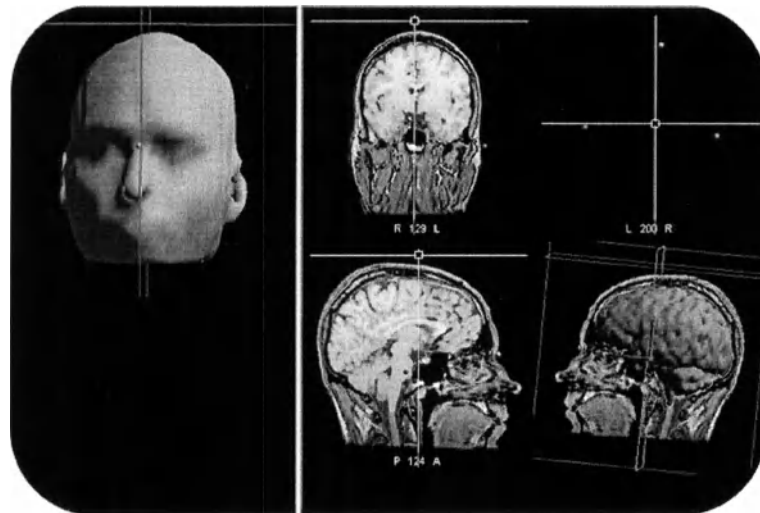

FIGURE 11: *MRI VIEW* AFTER SUCCESSFULL SCALP AND BRAIN SEGMENTATION
- Start the segmentation by clicking the [Create Segments] button. The segmented scalp and brain compartments will be displayed in the *MRI View*, the scalp on the left side, the brain on the right as indicated in Figure 11 .
- Start the segmentation by clicking the [Create Segments] button. The segmented scalp and brain compartments will be displayed in the *MRI View*, the scalp on the left side, the brain on the right as indicated in Figure 11. Please remind that the rendered brain is only the starting scalp surface from which the brain will be automatically generated.